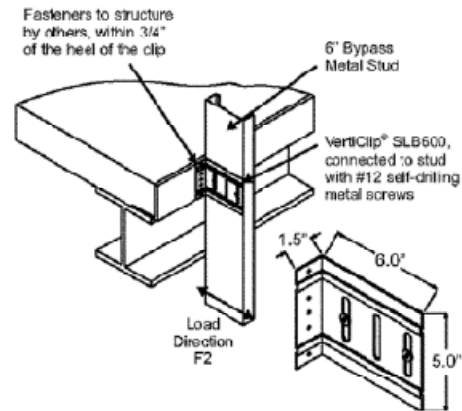

FIGURE 2 - VERTICLIP SLB600
3.1.3 VertiClip® SLB: The VertiClip SLB600 is an L-shaped angle that connects 6-inch-deep (152 mm) exterior curtain wall steel studs to a concrete floor slab's pour stop angle while allowing a maximum of 2 inches (51 mm) of vertical movement between exterior wall elements and the primary structure. The minimum base-metal thickness of the clip is 0.0677 inch (1.7 mm). The long leg of the connector, which is fastened to the curtain wall stud, has three vertical slots, each ³/₈ inch (9.5 mm) wide by 2³/₈ inches (60.3 mm) long. Refer to Figure 2 for overall dimensions of the VertiClip SLB600 connector and a typical installation detail.